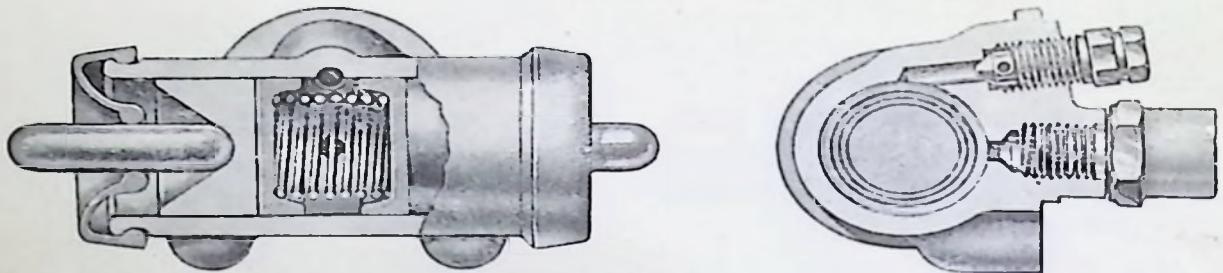

Fig. 5.
**THE WHEEL CYLINDER (Internal).** The wheel cylinder (Fig. 5) is mounted rigidly to the brake shoe back plate, and the opposed pistons act through push rods directly on the tips of the brake shoes. The ends of the wheel cylinder are fitted with rubber boots to protect the cylinder from dust or dirt. At the uppermost position, and between the opposed pistons, is a bleeder screw, required for expelling all air when filling the system.